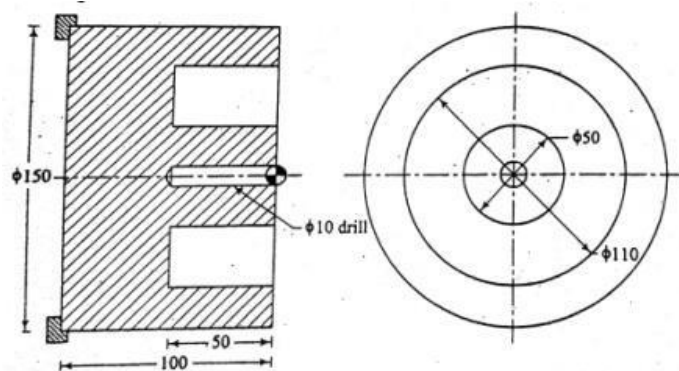

Fig 3
- (c) Write a part program using G74 to drill a central hole and face groove as shown in fig.3 07